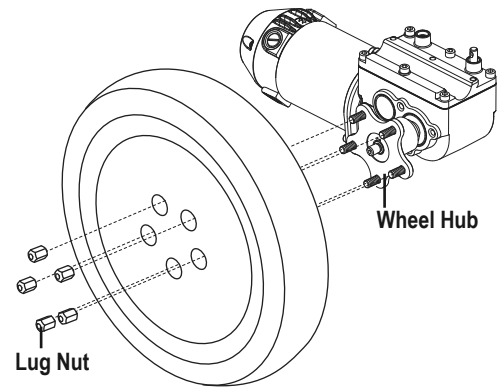

Figure 14. Drive Wheel with Five Lug Nuts
4. Remove the hubcap, if equipped, then remove the three (3) or five (5) lug nuts from the wheel hub. **See figure 14 or 15.**